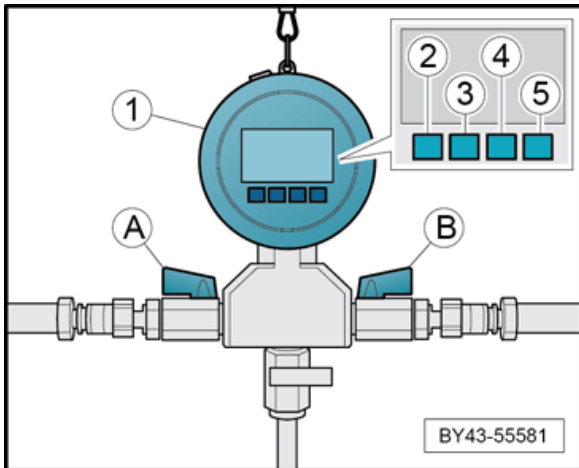

Figure 9
These checks should be carried out in conjunction with the ElsaPro procedure "Air suspension – To check" with the use of the special tool "Air suspension leak tester VAS 751 001" shown in Figure 9 as item (1). Refer to ElsaPro, Repair Group 43, "Air suspension – To check".